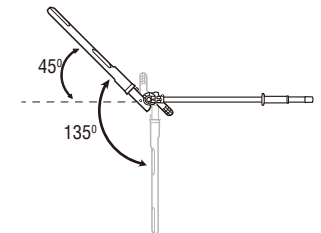

Fig.5B
**NOTE:** The trimmer head pivots 135° and can be locked into 10 positions within that range. The angle of the blade can be adjusted upwards to any of 4 positions from 0 (straight) to 45, and downwards to any of 6 positions from 0 to 90 (Fig.5B).
2. Mount the two gaskets, pressing plate, and wool felt into place as Fig. 5B shows.